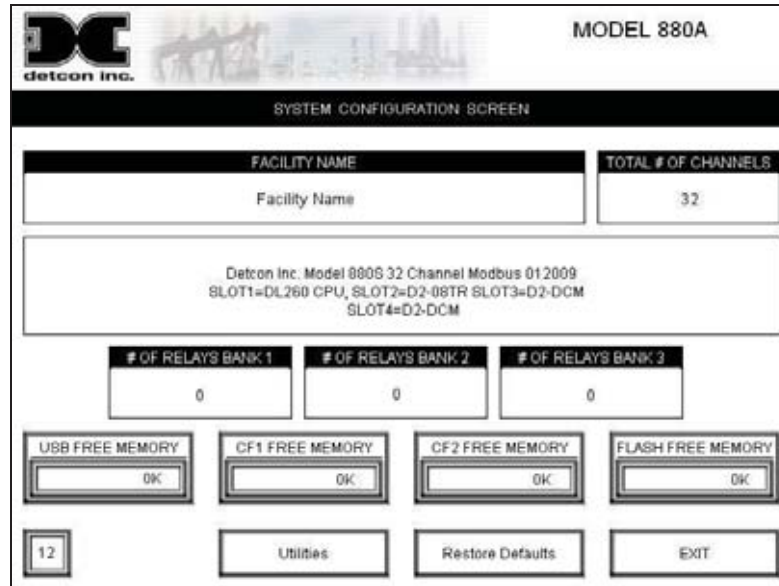

Figure 17 Serial Configuration Screen
- 2) The display will prompt for a password to enter the 880 “System Configuration Screen”. The default password is “1234”. Enter the password in the Pop-Up Screen and press enter to continue. This will open the “System Configuration Screen” (Figure 16 – Analog, Figure 17 - Serial).